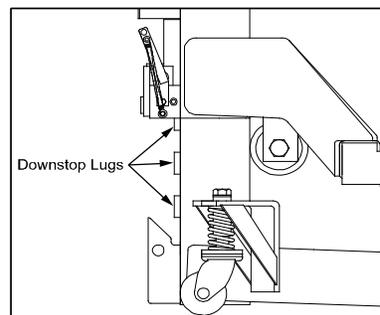

Fig. 4: Downstop lug identification
2. Raise the vehicle until it is 2"- 4" above the desired working height (the vehicle will lower by that amount as the downstop lugs engage). Visually confirm that the downstop pawls will engage downstop lugs at the same height on each lift. If they will not engage downstop lugs at the same height, carefully adjust vehicle level until the lifts are at the same height. See Fig. 4 and 5 for downstop pawl and lug identification.